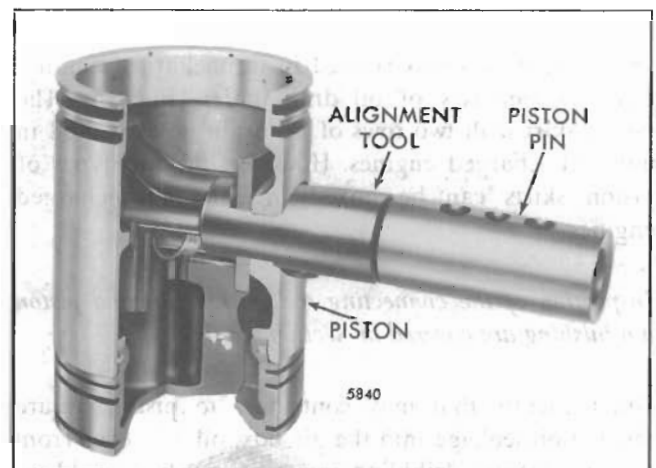

Fig. 7 - Installing Piston Pin
4. Lubricate the piston pin with clean engine oil and install it as shown in Fig. 7.